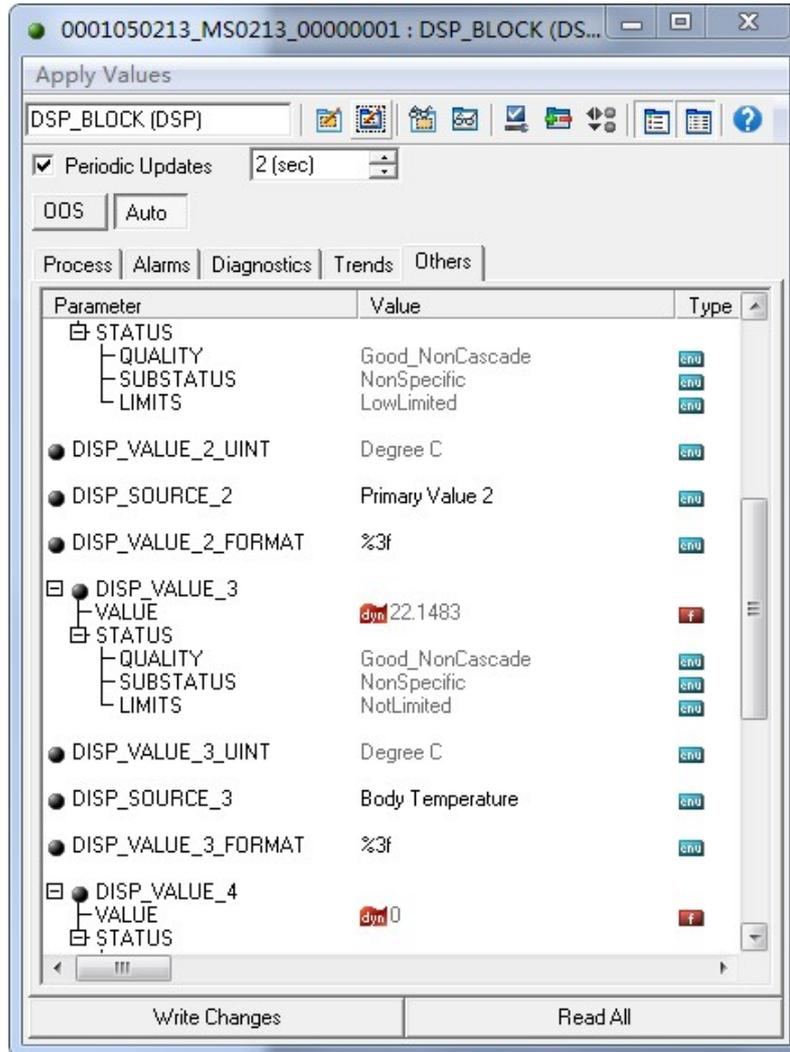

Figure 3.4 Parameter configuration of the display block
1. The intelligent temperature transmitter provides 16 calibration point inputs, i.e., the CAL_POINT_Y array of parameters of the transformation block, and the user can write the output values to be calibrated in turn and select the units. For example, when performing a three-point interpolation calibration, the user can select 10, 20 and 30 as calibration points and write these three values in the CAL_POINT_Y array in turn, as shown in Figure 3.4.